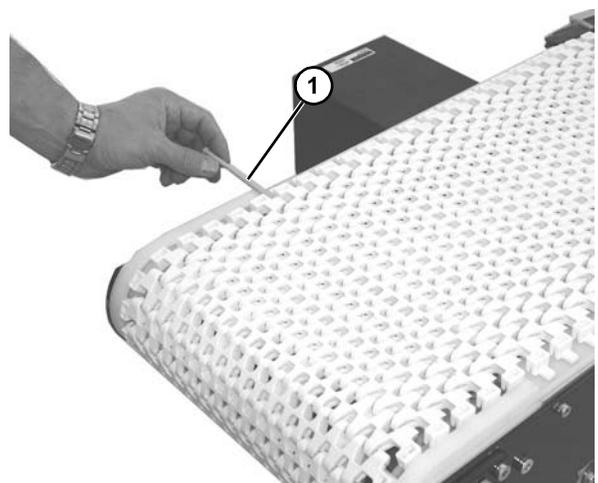

Figure 30
10. Insert the belt rod (**Figure 30, item 1**).